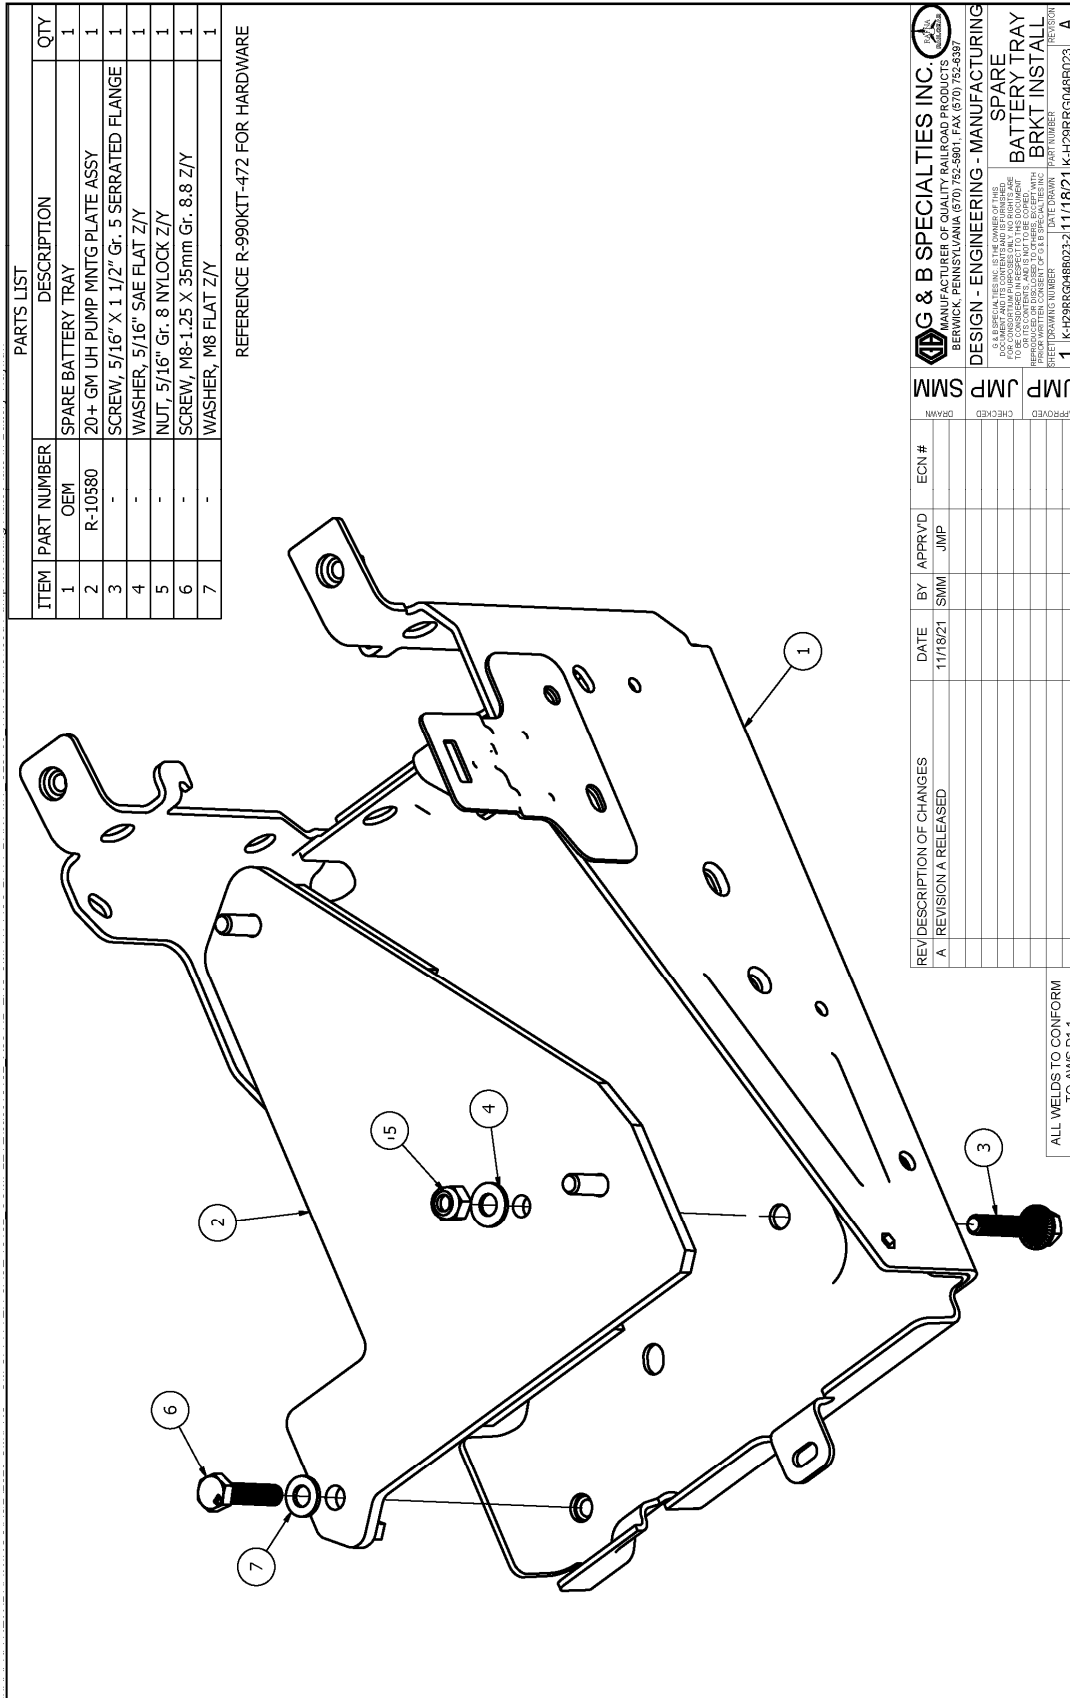

Figure 2
2. Place the battery tray adapter plate into spare battery tray and line up with existing holes in the battery tray. Figure 2
3. Install (1) Serrated Flange Hex Bolt and (1) M8 Hex Bolt on to battery tray as shown. Figure 2